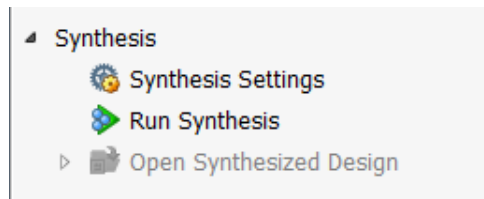

Figure 1: Flow Navigator: Synthesis
1. Click the **Synthesis Settings** button, as shown in Figure 1.